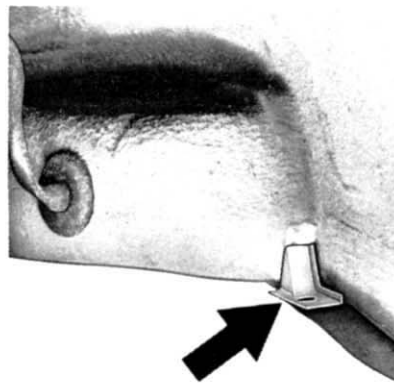
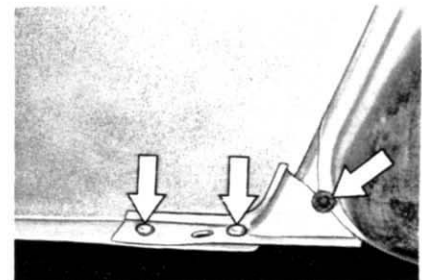

Figure 7
Figure 8
4. Clean welding surface in area of cracks inside and outside. Check inside if reinforcement plates (Figure 7) are welded in place. If not, align new reinforcement plate on inside and weld in place (Figure 8). Weld crack from outside. If reinforcement plates are already installed, weld cracks from outside.